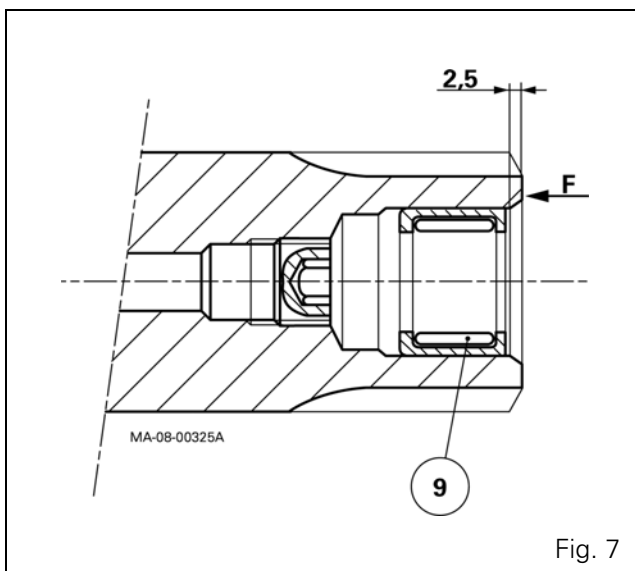

Fig. 7
30. Tighten the plug (8) smeared with Loctite 542 to a torque of 10 Nm.
31. Fit the needle roller bearing (9) 2.5 mm set back from face F (Fig. 7).
32. Fit the bearing cone (19) against the shoulder of the shaft (25).